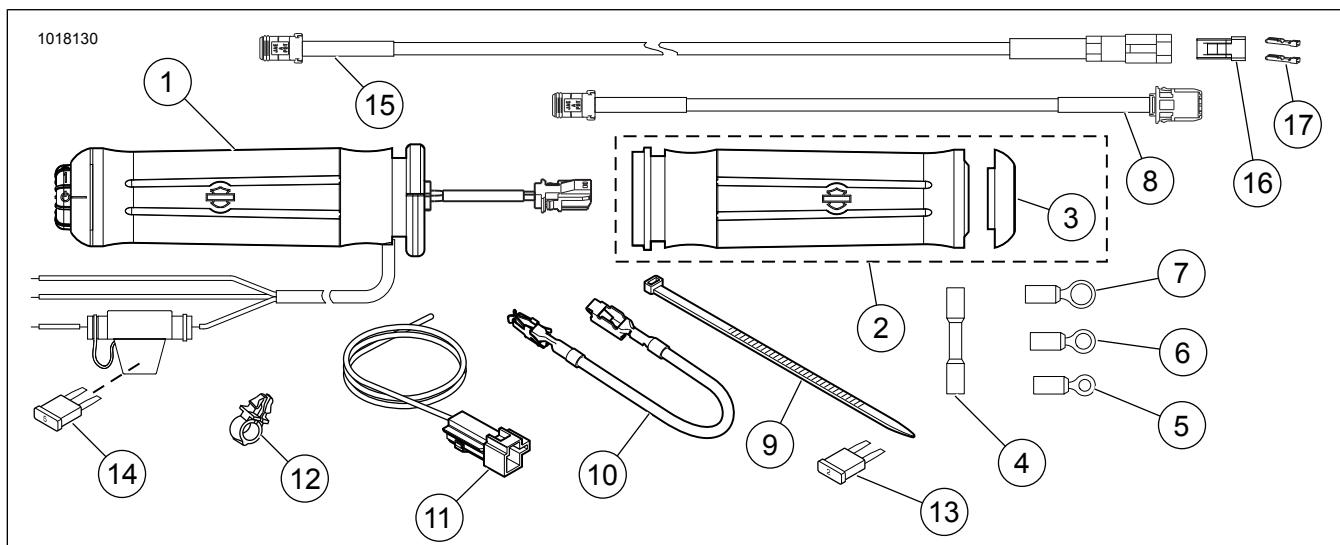

Figura 8. Parts tas-Service, Kits Tal-Manku Li Jissasħħan
- Ara Figura 8 . Uża čineg tal-kejbil (9) mill-kit biex torbot il-wiring tal-manku mal-harnesses tal-wajers matul il-frejm tal-vettura.